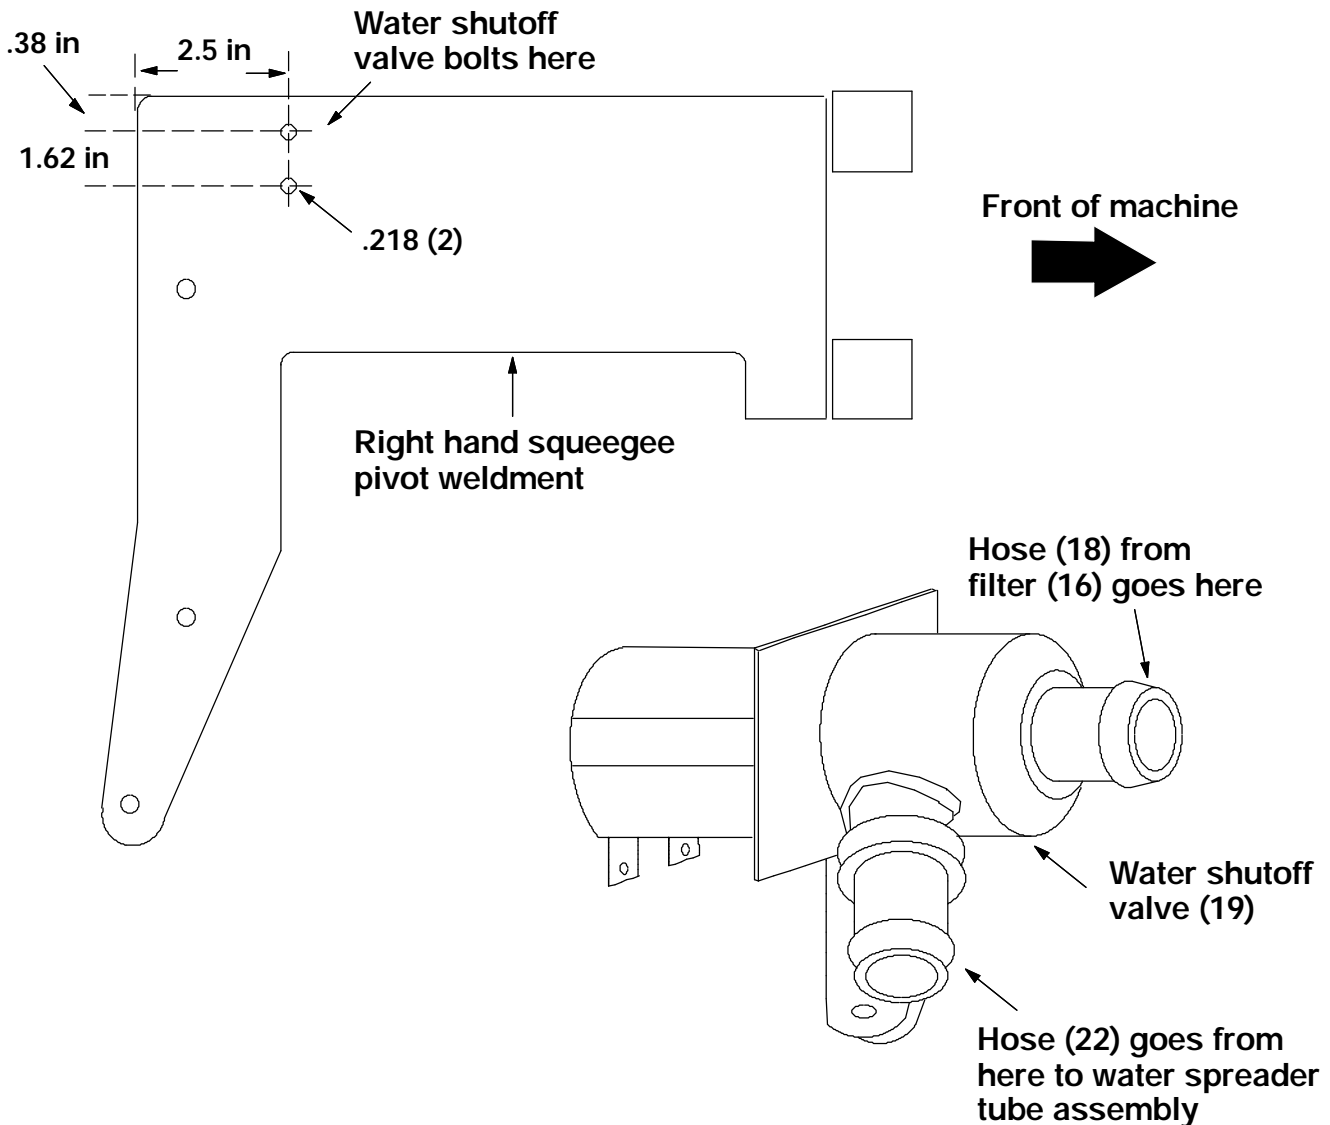

FIG. 3 - Water Shutoff Valve
(Refer to FIG. 3)
1. With the squeegee frame removed from the machine and turned **upside down**, use the dimensions in FIG. 3 to mark and drill the water spreader tube bracket (34) mount holes on the bottom side of squeegee frame. (Refer to FIG. 3)
2. After the mount holes have been marked and drilled, install the two mount brackets (34) on the squeegee frame using the four thread rollers (36). Leave the screws loose for now. (Refer to FIG. 3)
3. Mount the spreader tube assembly on the mount brackets using two clamps (35), two bolts (37), washers (39), and nuts (38). Push the tubes against the squeegee mount and firmly tighten all of the hardware. (Refer to FIG. 3) (Reference photos 5, 6, 7, 8, and 9)
5. Connect the water hose (22) leading from the outlet nipple of the shutoff valve (19) to the 90° ftg. in the center of the water spreader tube assembly. (Refer to FIG. 3) (Reference photo 9)
6. Use the wire ties (45) to secure the electrical harness away from any moving parts.